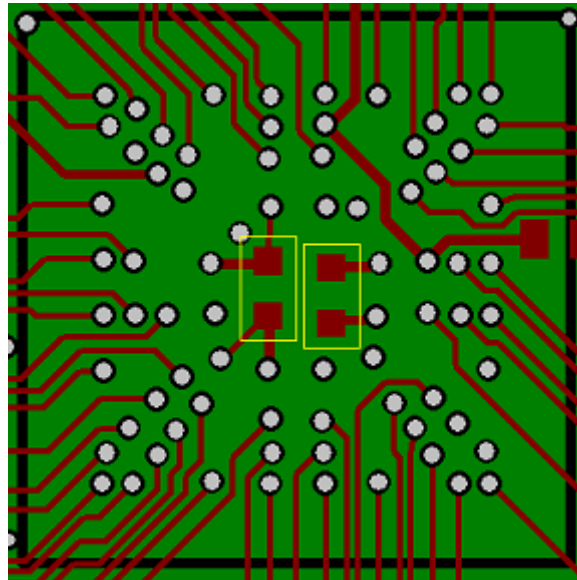

Figure 11. Bottom Layer 212-Ball BGA Escape Routing
- All other balls require vias to the backside or power planes. The placement of the vias is important to enable all traces on the back side to escape. See Figure 11. It may be necessary to use a very small grid spacing to align the vias with 4-mil spacing.
- The location of the vias in the center of the BGA allow for placement of two 0402 decoupling capacitors on the back side of the board directly under the BGA, as shown in Figure 11.
Figure 11 shows the bottom layer escape routing under the BGA from the vias. In the center of the bottom layer are two 0402-sized 0.1- $\mu$ F decoupling capacitors connected between VDD and GND.